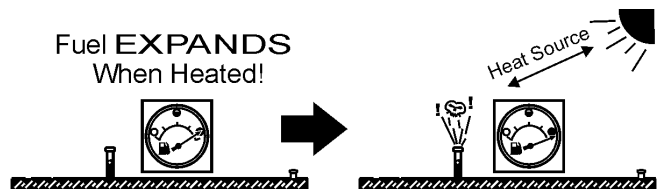

Figure 36. Fuel Expansion
**DO NOT OVERFILL** fuel system. Leave room for fuel expansion. Fuel expands when heated (Figure 36).